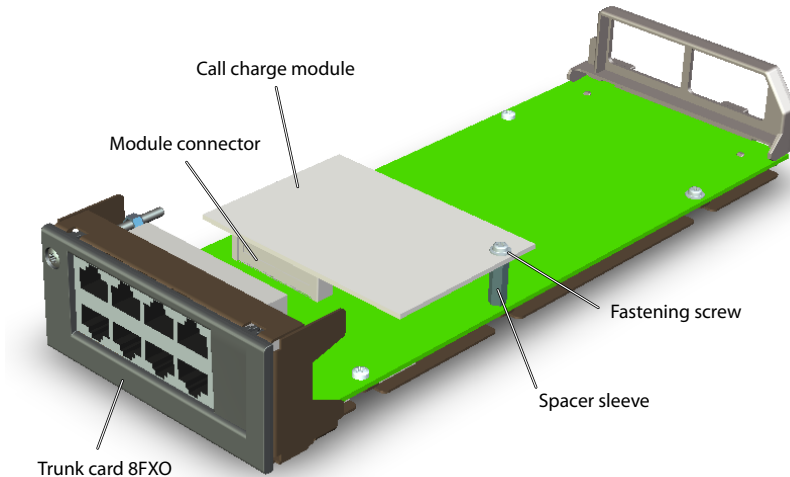

Fig. 28 Call charge module on 8FXO trunk card
3. Remove the fastening screw for the call charge module on the FXO card and in its place screw the spacer sleeve into position (see Fig. 28).